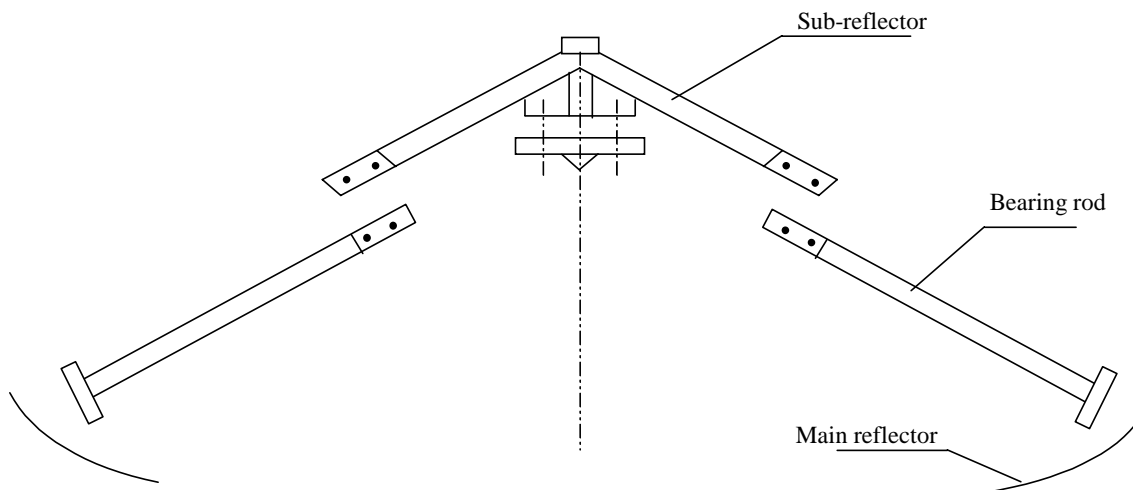

Fig. 9 Sub-reflector installation
2.3.6. Sub-reflector installation (See fig. 9)